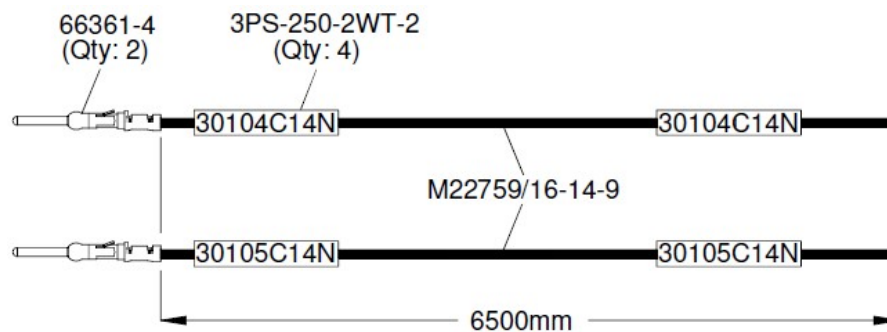

Figure 45: Preparation of Ground Wires
13.2.1.3 Prepare the ground wires according to Figure 45.